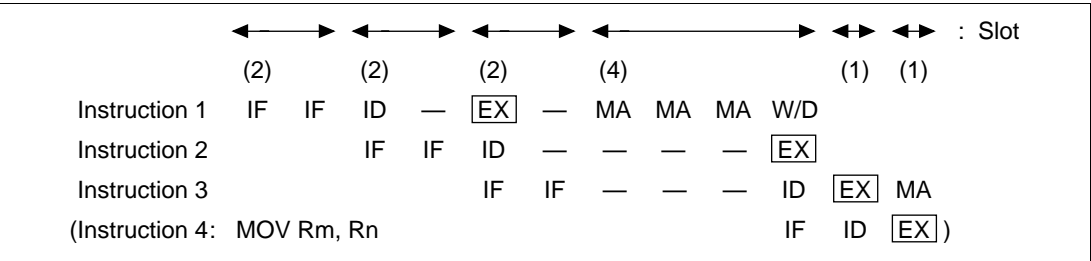

Figure 7.5 Method for Counting Instruction Execution Cycles
For example, in a pipeline flow like that shown in figure 7.5, the EX stage interval between instructions 1 and 2 is five cycles, so the execution time for instruction 1 is five cycles. Since the interval between EX stages for instructions 2 and 3 is one cycle, the execution time of instruction 2 is one cycle.
If a program ends with instruction 3, the execution time for instruction 3 should be calculated as the interval between the EX stage of instruction 3 and the EX stage of a hypothetical instruction 4, using a MOV Rm, Rn that follows instruction 3. (In figure 7.5, the execution time of instruction 3 would thus be one cycle.) In this example, the MA of instruction 1 and the IF of instruction 4 are in contention. For operation during the contention between the MA and IF, see section 7.2.1, Contention between Instruction Fetch (IF) and Memory Access (MA).